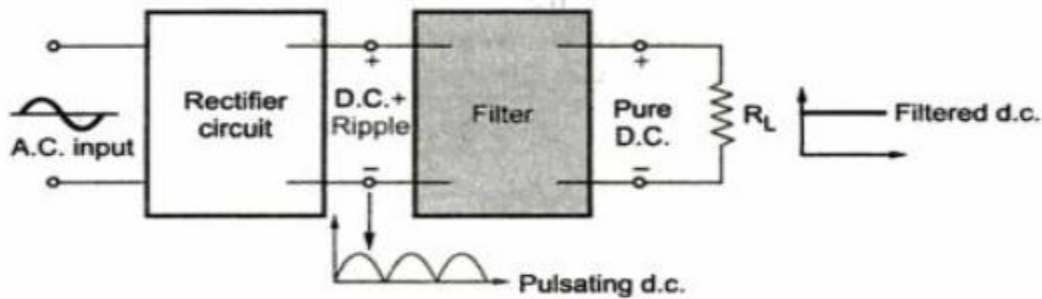

Fig. 1.34 Rectifier and filter
- These circuits are connected between the rectifier and load as shown in the Fig. 1.34.